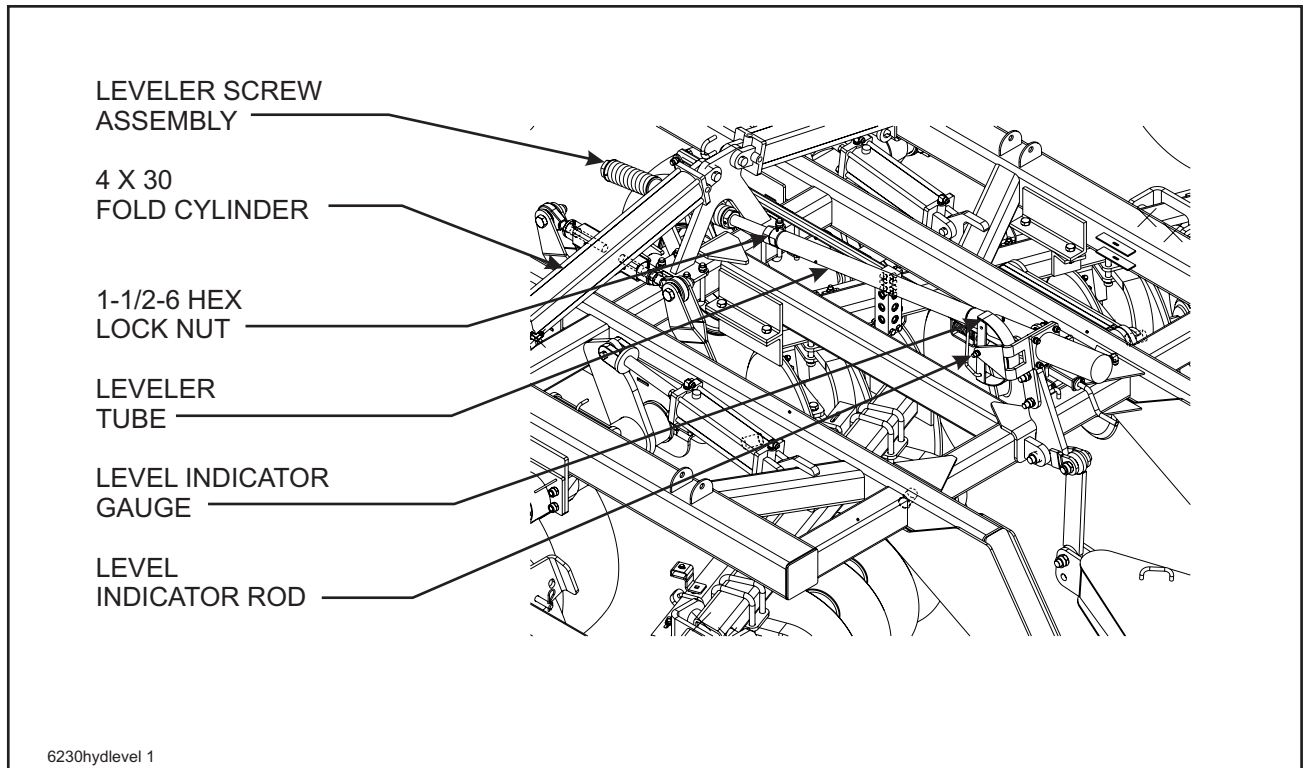

Figure 4-11 Hydraulic Leveler Gauge Adjustment
- 4-10.2** Remove the level indicator rod from the leveler tube (**See Figure 4-11**).